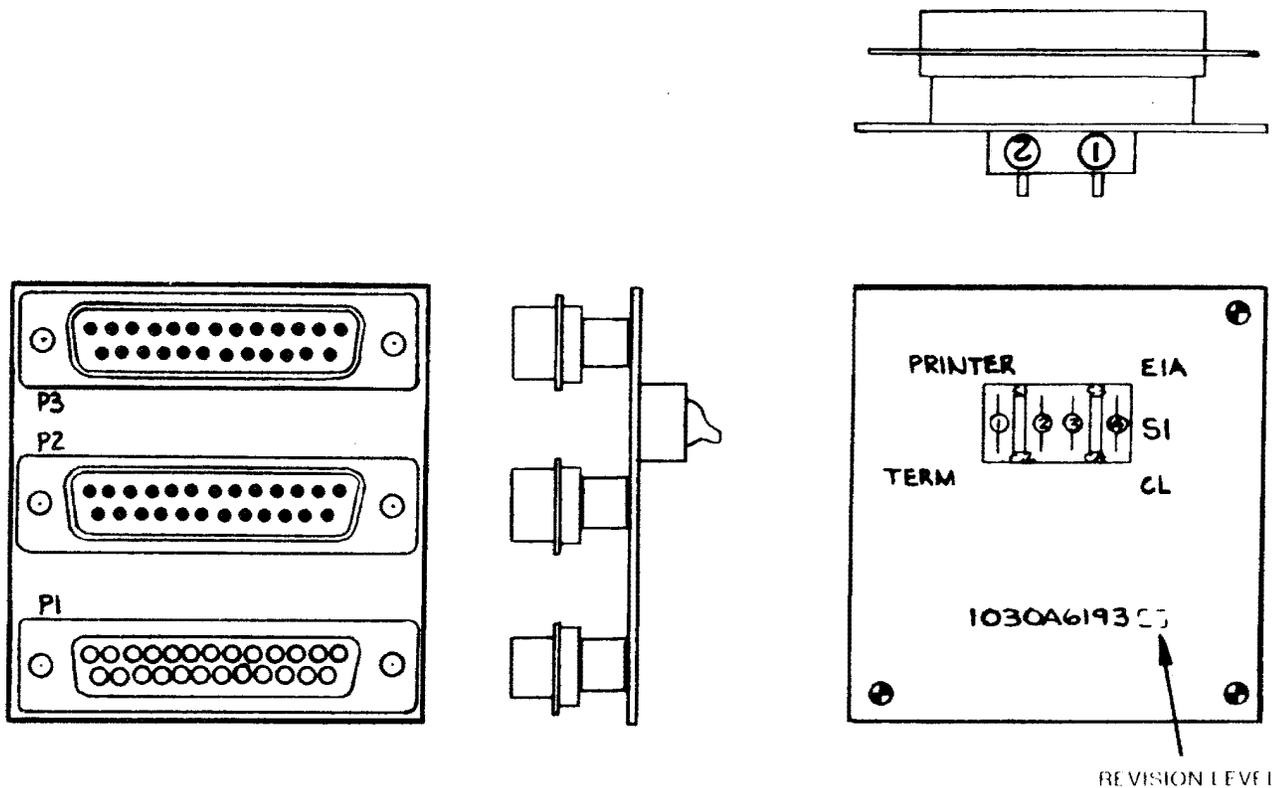

Fig. 1 — Diagnostic Test Plug
**3.01** The User Diagnostic kit (Part #1030A5191) consists of a Diagnostic diskette and a three-port EIA test plug (Fig. 1).